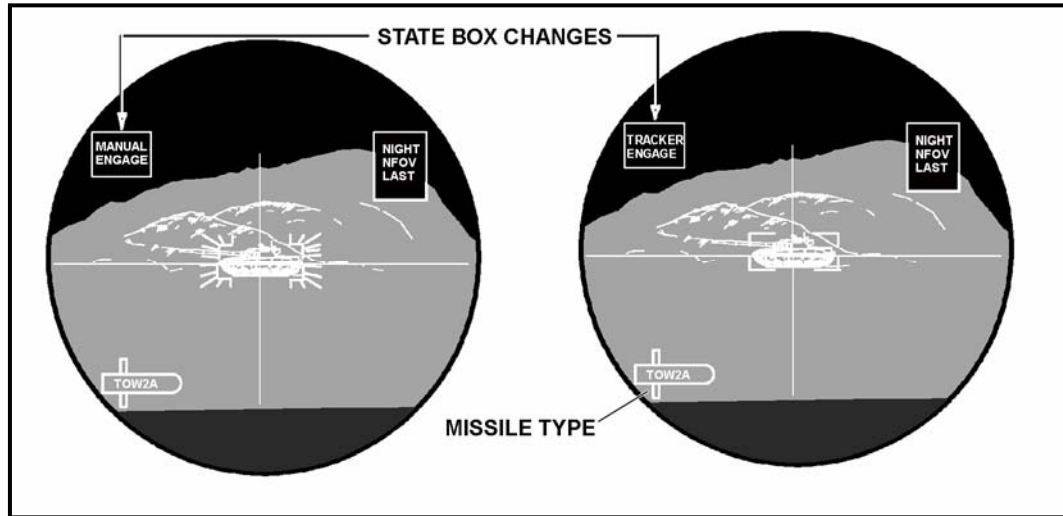

Figure 3-9. Target lock-on.
(1) If in range, the gunner arms the missile. The mode box will change from SURV to MANUAL ENGAGE and the missile type symbol will come up. He locks on the target (Figure 3-9), by pressing the TRK GATE switch to activate the track gates, and uses the GATE ADJ switch to adjust the track gates around the target. He presses the TRK GATE switch again to lock the track gates on the target.